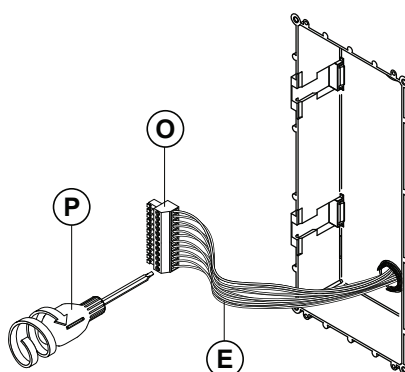
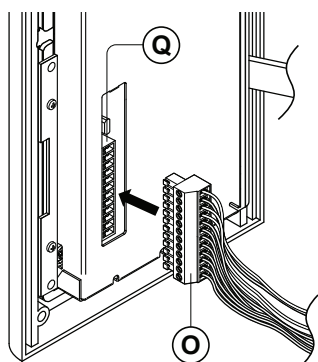

Fig. 63
Fig. 68
5. Next take connecting cables (E) and make the required terminal connections into the terminal block (O) using the screwdriver provided (P) (using the flat blade end), as shown in **Fig.63**;
9. Plug the terminal block (O) (from step 5, **Fig.63**) into the module's terminal block connector (Q), as shown in **Fig.68**. Make any other necessary panel adjustments required (connecting the antenna cable, fitting the SIM card and setting the dip-switches etc.);